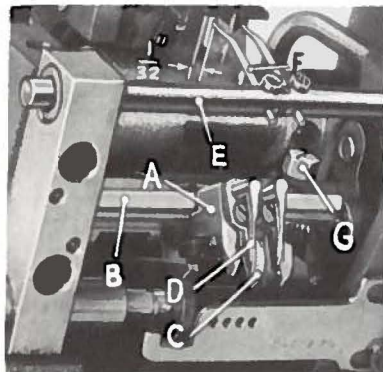
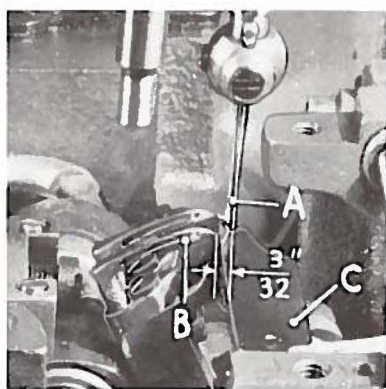
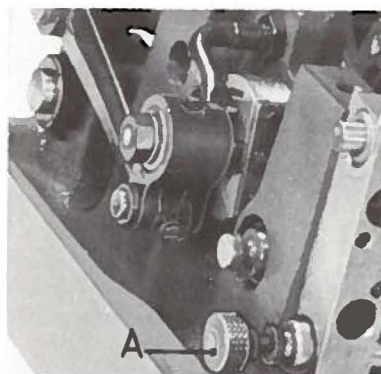

Fig. 6
Fig. 7
Fig. 9
Assemble looper holder and stationary needle guard (A, Fig. 6) onto looper holder frame (B) and adjust the stationary needle guard so it is just brought up to the needle. Assemble the adjustable needle guard (C) and looper (D) onto looper holder and set so that the right edge of the looper is inline with the stationary needle guard. The distance between the stationary needle guard and the adjustable needle guard to be the same as the large shank section of a needle. Adjust proportionally smaller for smaller than size .049 or .054 needles.
Set looper holder frame (B, Fig. 6) so distance between centerline of needle (A, Fig. 7) and point of looper (B) is $\frac{3}{32}$ inch when needle is at the bottom point of travel. Accomplish this by loosening the hexagonal head clamp screw (G, Fig. 6) and moving the holder forward or backward as required and tighten screw. Looper gauge No. 21225- $\frac{3}{32}$ (C, Fig. 7) can be used advantageously in making this adjustment.
With looper points toward the operator, the loopers should be seated in looper holder as far down as they will go. Check to see that the loopers clear the underside of the retainer holder bar (E, Fig. 6) when released to the threading position. The loopers may be released to the threading position by pulling the looper holder frame locking pin (A, Fig. 9) to the left when the needles are at the high point of travel.
Insert the retainer (F, Fig. 6) in the retainer holder bar (E) with the tip of the notched end approximately $1/32$ inch from the needles when the needle bar is at the bottom of its stroke, the notch should be to the right and in a vertical position. Loosen screws in the retainer holder bar connection (B, Fig. 11) and rock the retainer bar so the underside of the retainer is as close as possible to the top of the looper without contacting. Turn the handwheel in the operating direction until eye of looper is directly below the point of the retainer. Then, move the retainer holder bar (E, Fig. 6) to the right or left so that the right side of the retainer is directly over the middle of the looper at the eye. Where larger than size .040 needles are used, the retainer should be set so the right side of the retainer is even with the right side of looper at the eye.
Draw looper and needle threads into the machine. When there are no threads in the machine, the loopers may be released into threading position by turning the handwheel until the needle bar is at high position and pulling the looper holder frame locking pin (A, Fig. 9) to the left. With threads in the machine, proceed in the same manner except hold the needle threads taut to prevent stitch formation while turning handwheel. Return loopers to operating position by pushing against looper holder frame, the needle bar being at its highest position.